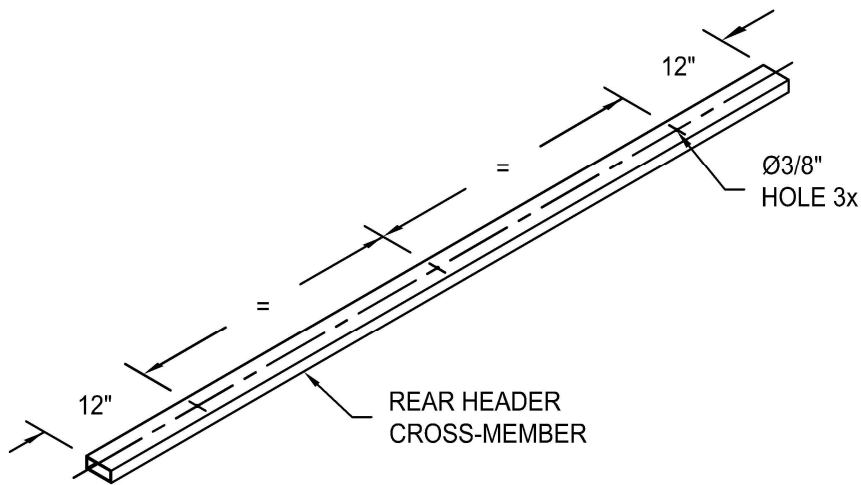

FIG. 7
- \* Lay rear header cross-member on floor and mark mounting holes with one (1) at center and one 12" in from each end (FIG. 7).